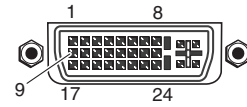

Figure 4. Pin Assignments for the DVI Output Connector
- G DVI-I output connector** — Connect a digital (DVI-D) display device to this DVI-I connector for a scaled DVI output (analog output is not available on this connector). Figure 4 shows the pin assignments for the DVI output connector.